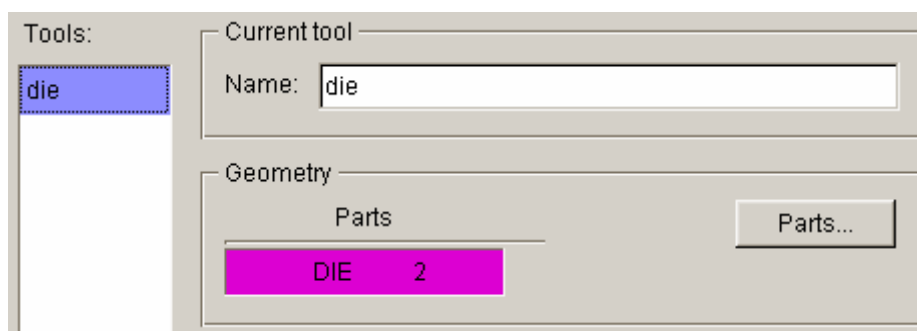

Figure 4.18 Die definition interface
- 8. Click **Exit** button to return to tool definition interface. Now, you can observe the font color of **die** is changed to BLACK. See Figure 4.18.